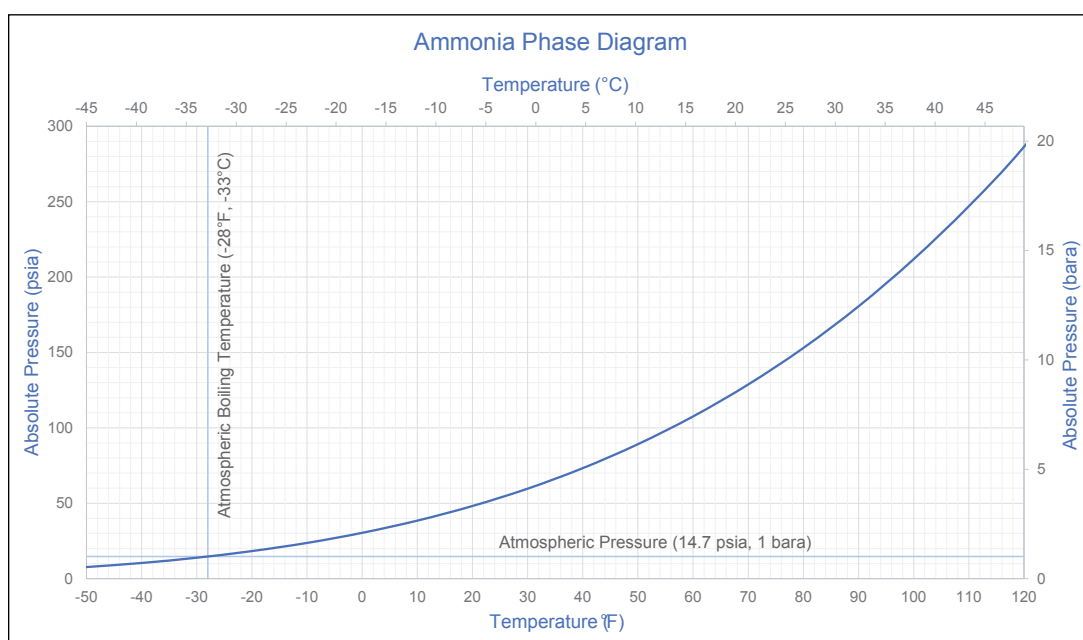

Figure 6 Ammonia Phase Diagram
2. **Temperature** – The Swagelok ammonia sampler is only intended to sample liquid ammonia. A mixed phase sample may lead to inaccurate results and unsatisfactory operation. An ideal sample point will be able to supply ammonia at a temperature below its atmospheric boiling point. Refer to Figure 6. The higher the temperature, the more likely it will be that the ammonia will flash to a gas as it is dispensed in the unpressurized sample fixture(s).